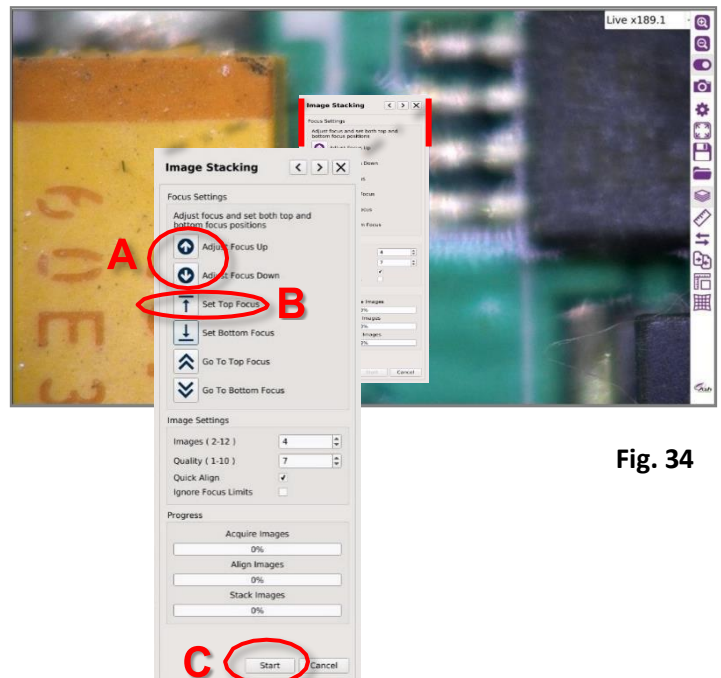

Fig. 34
3. Now bring the top of the sample into focus with the Adjust Focus up and down arrow buttons (**A**), click on the Set Top Focus button (**B**), the Go To Top Focus button will then become active (Fig. 34).